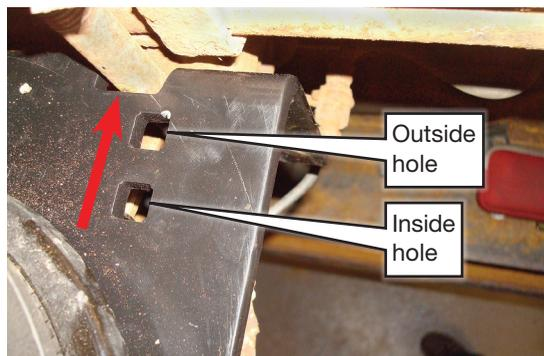
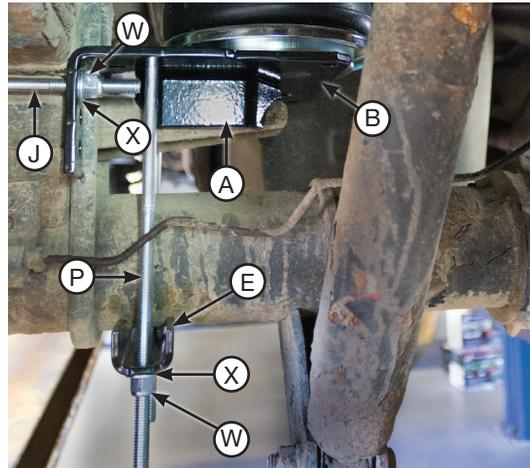

fig. 21
fig. 22
1. Determine which bolt holes to use for the 3/8"-16 x 10" carriage bolts (P) based on the type of truck (Fig. 21 & 22):
2. Push the lower bracket (B) up against the stock U-bolts so that the flanges are locked into position around the stock U-bolts (Fig. 21). It may be necessary to rotate the lower bracket cup (A) on the jounce bumper strike plate (Fig. 22).
3. Position the U-bolt (J) around the leaf spring assembly and insert into the lower bracket (B) hole closest to the leaf spring stack (Fig. 22). The lower bracket flanges must be locked on the front and rear of the stock U-bolts that hold the leaf springs to the axle.
4. Cap the U-bolts with two 3/8" flat washers (X) and two 3/8"-16 nylon lock nuts (W) and evenly tighten only enough to draw the bracket up against the stock U-bolt (Fig. 22).
5. Set the clamp bar (E) over the long carriage bolts below the axle and cap with two 3/8" flat washers (X) and two 3/8"-16 nylon lock nuts (W) (Fig. 22).